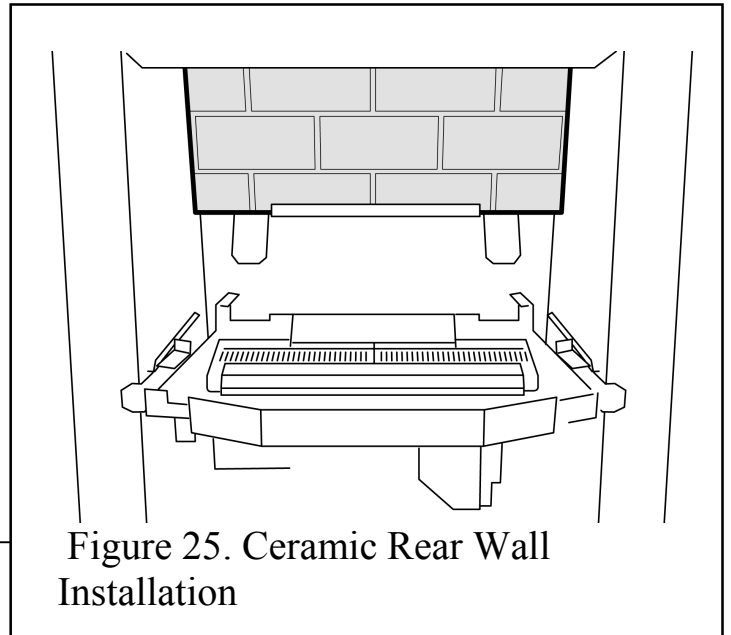

Figure 25. Ceramic Rear Wall Installation
1. Fit the rear ceramic wall support bracket to the rear of the hotbox using two screws. The “L” shaped section should be on top with the two side tags underneath. See figure 25.
2. Fit the ceramic rear wall inside the “L” bracket on the back face of the burner compartment. Push the ceramic wall flat against the back face of the burner compartment. See figure 25.